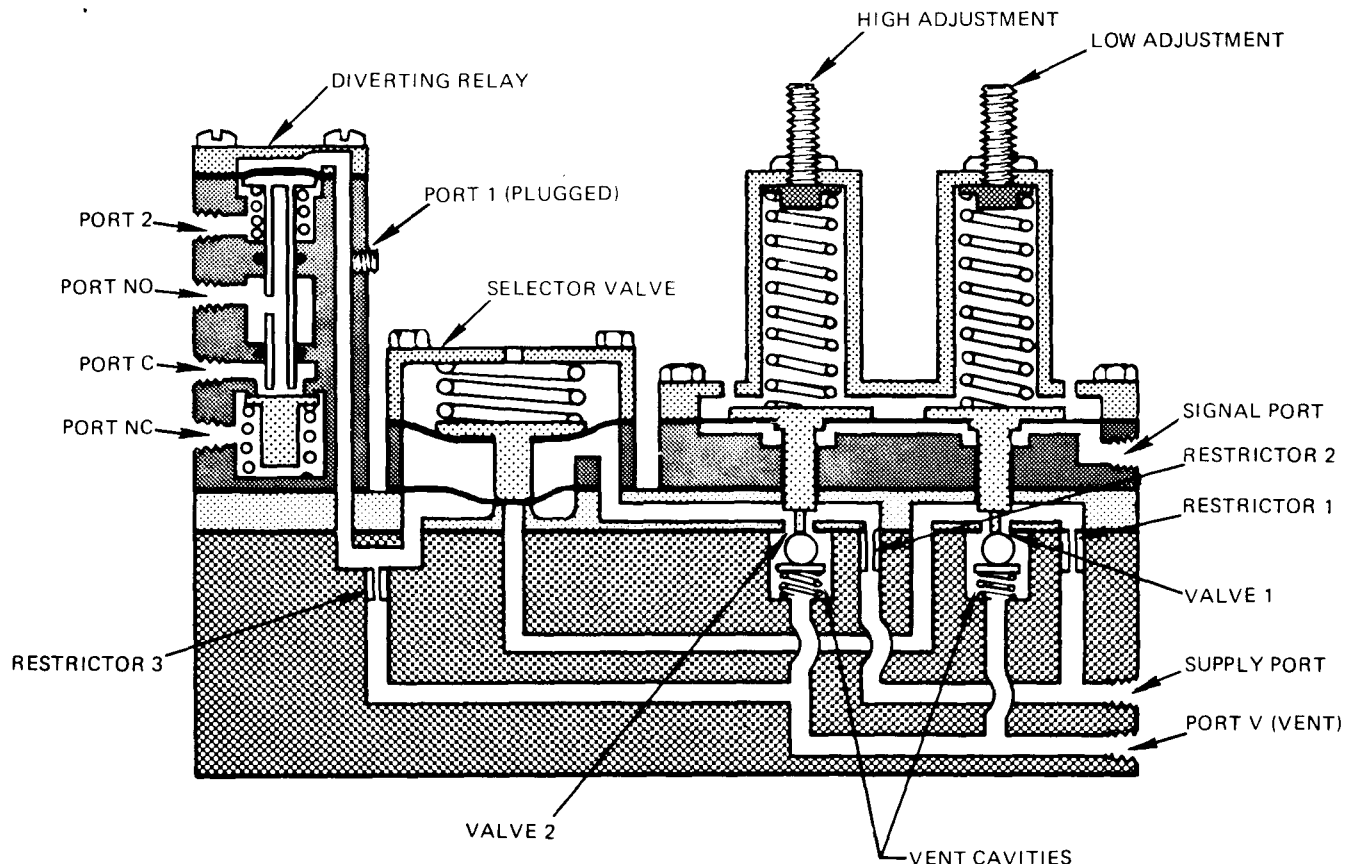

Figure 2
2. For a complete kit to repair the Diverting Relay ONLY (See Figure 2) containing details 34, 37, 38, 39, 43 and the plug and "O"-Ring for detail 36, order Repair Kit No. 82665-B 1.